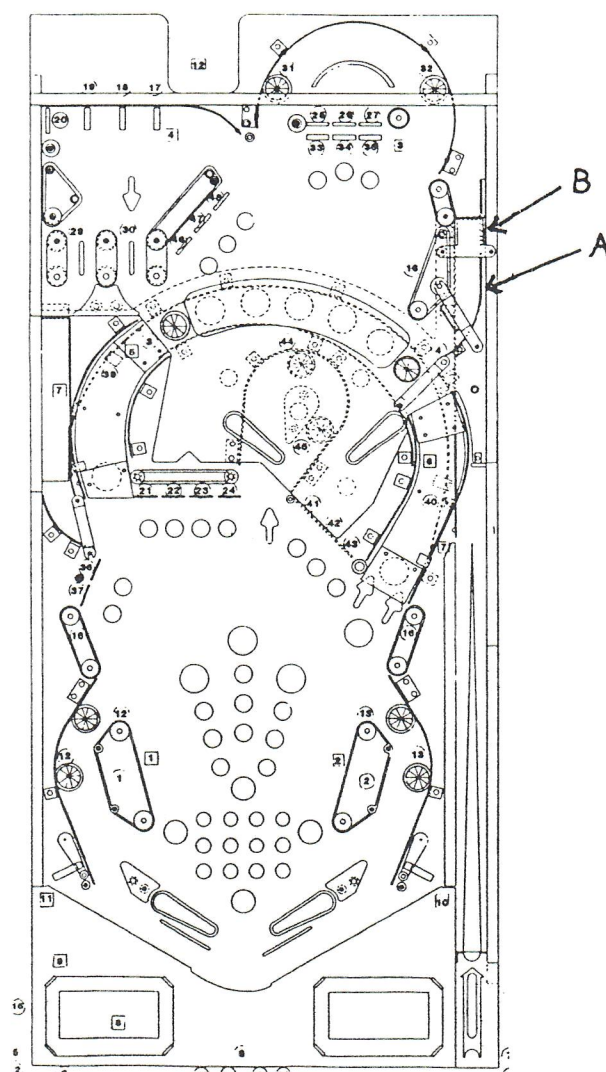

Figure 1
1. Refer to Figure 1.
1. Refer to figure 1.